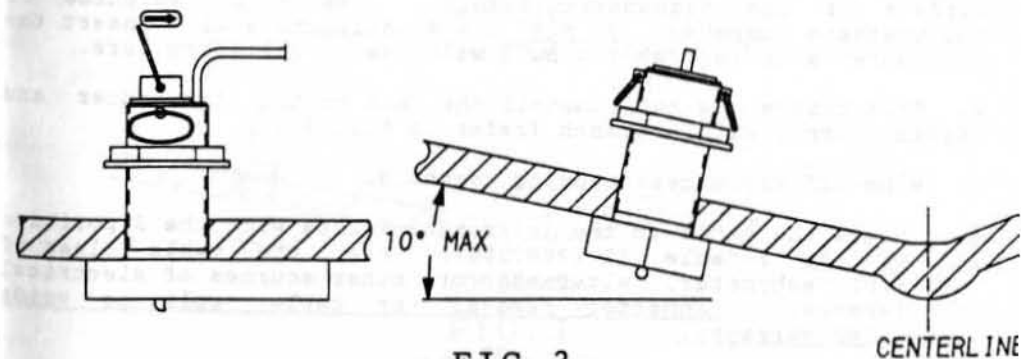

FIG. 3
4. From inside the hull, install the nut on the fitting. Make sure the Sensor body is aligned properly and tighten securely with a wrench (refer to Fig. 3).